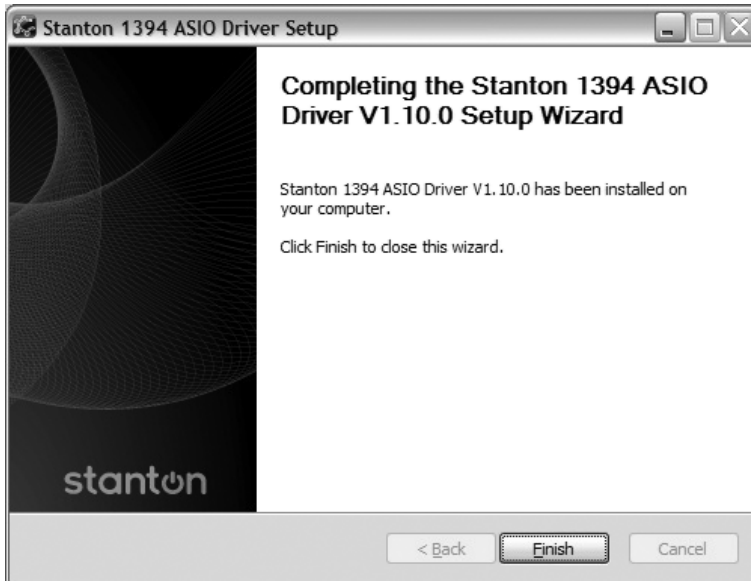

Figure 4.10
10. Click **Finish**. (Figure 4.10)